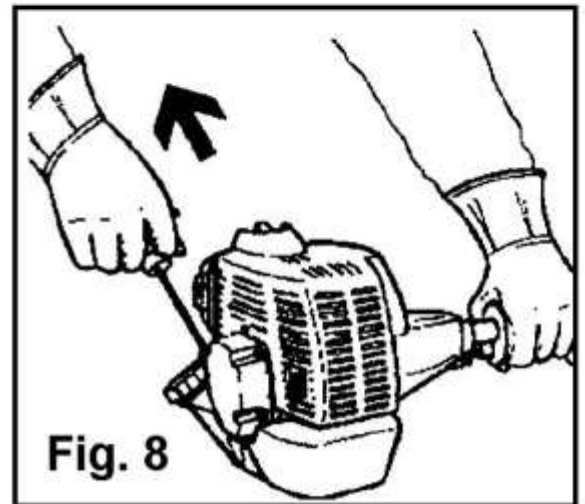

Fig. 8
6. Pull the starter cord 5 times fully, engine may start (Fig.8).
8. Pull the starter cord (Fig.8) repeatedly until the engine starts and allow to run for a few seconds.